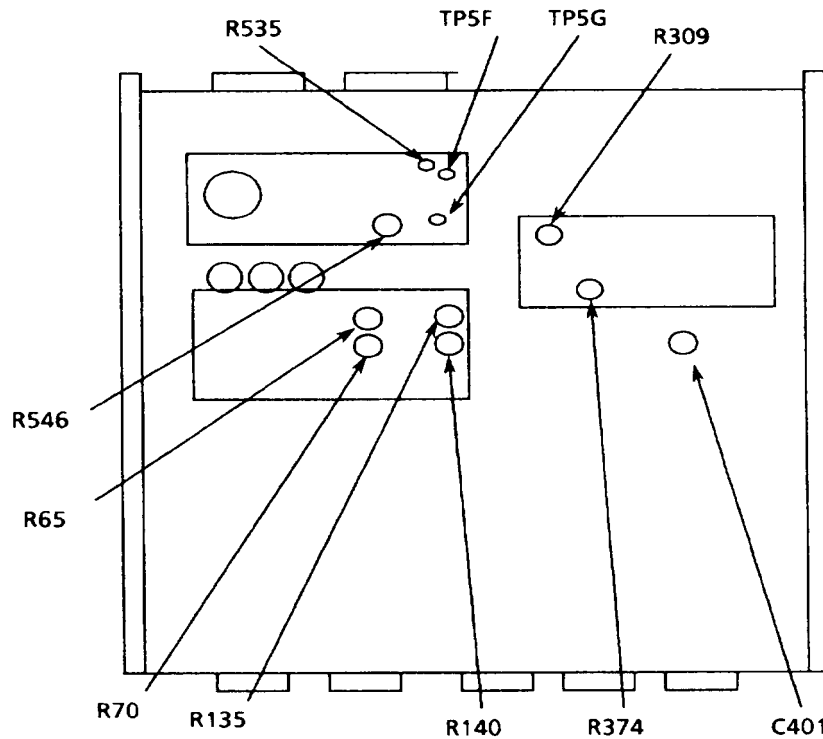

Figure 2. Test instrument - right view.
b. Adjustments. Adjust **AMPLITUDE VERNIER** control fully ccw and adjust R374 (fig. 2) for a pulse amplitude indication on oscilloscope of less than 50 V (R).
- (1) Adjust R140 (fig. 2) for a pulse width indication on oscilloscope of 50 ns or less.
- (2) Adjust R135 (fig. 2) for a pulse width indication on oscilloscope of 100 μ s or greater.
(1) Adjust R65 (fig. 2) until leading edge of output pulse indicated on oscilloscope is 10 μ s or more to the right of leading edge of sync pulse (R).
(2) Adjust R70 (fig. 2) until pulse delay indicated on oscilloscope is 10 μ s or less (R).
- (1) Adjust R309 (fig. 2) for minimum pulse aberrations (R).
- (2) Adjust C401 (fig. 2) for minimum pulse overshoot (R).
- (1) Set **POWER** switch to **OFF** and remove top protective cover.
- (2) Connect digital voltmeter (A2) negative terminal to circuit ground and positive terminal to TP5F (fig. 2), using two leads (B8).
- (3) Set **POWER** switch to **ON**. If digital voltmeter indication is not between -190 and -210 V dc, perform **b**(1) below.
- (4) Move digital voltmeter negative lead to TP5G (fig. 2). If digital voltmeter indication is not between 34 and 36 V dc, perform **b**(2) below.
- (1) Adjust R535 (fig. 2) for a -200 V dc indication on digital voltmeter (R).
- (2) Adjust R546 (fig. 2) for a 35 V dc indication on digital voltmeter (R).